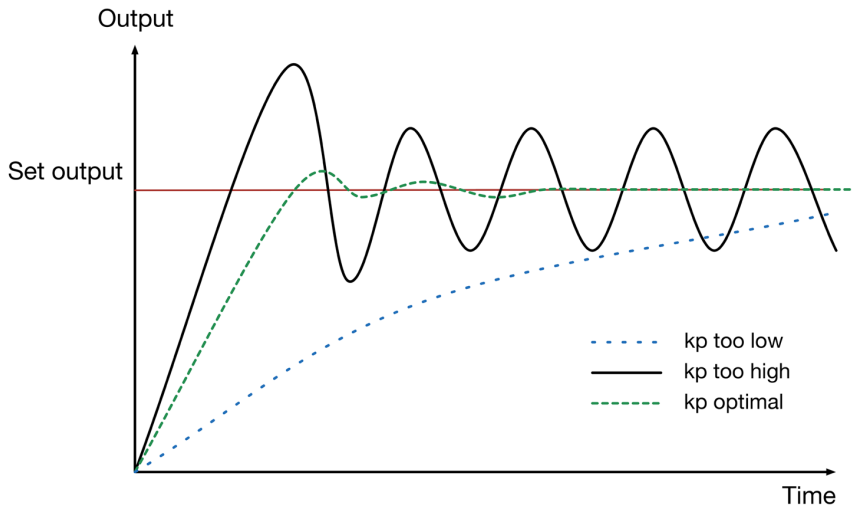

Figure 12-8 The effect of k_p (gain) on output in a proportional controller
The error on which we base the calculation for the output power is, in the case of a thermostat, a temperature difference. This might be in degrees Celsius, so if the set temperature is 30°C and the measured temperature is 25°C, then the error is 5°C (30°C – 25°C). If you are using PWM of an Arduino to set the output power, then the output needs a value between 0° and 255°C. So, directly setting the output to the error (5) would deliver very little power to the heater; in fact, probably not enough to ever get the temperature up to 30°C. For this reason, the error is multiplied by a number called k_p (also some times called *gain*) to give the output power. Changing k_p will determine how fast the temperature will get up to the set temperature. With a low value of k_p the temperature may never get up to the set temperature, but if the k_p value is too high, the system will behave exactly like the on/off temperature controller and oscillate back and forth about the set temperature. Figure 12-8 shows how different values of k_p alter how an idealized system behaves.